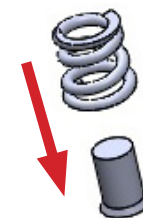

Fig. a-3
3. Separate the extractor bump stop by popping it out of the extractor spring with your finger or a small pointed object if it's stuck. (Fig. a-3)